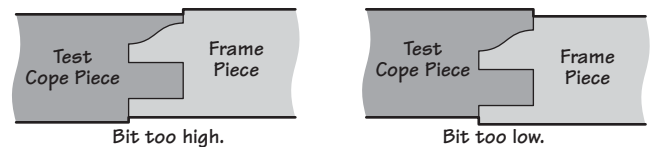

Figure 9: Checking the bit height.
- Once the fit has been perfected, adjust the bit height using one of the previously cut rails or stiles as a guide (see **Figure 9**).